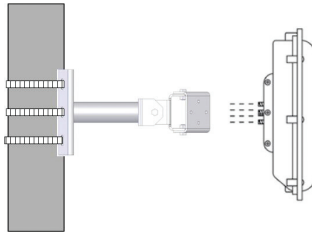

Figure 1.2 – Attaching the Sensor to the Mount Bracket
- 3 Thread on the nuts and tighten (see Figure 1.2).